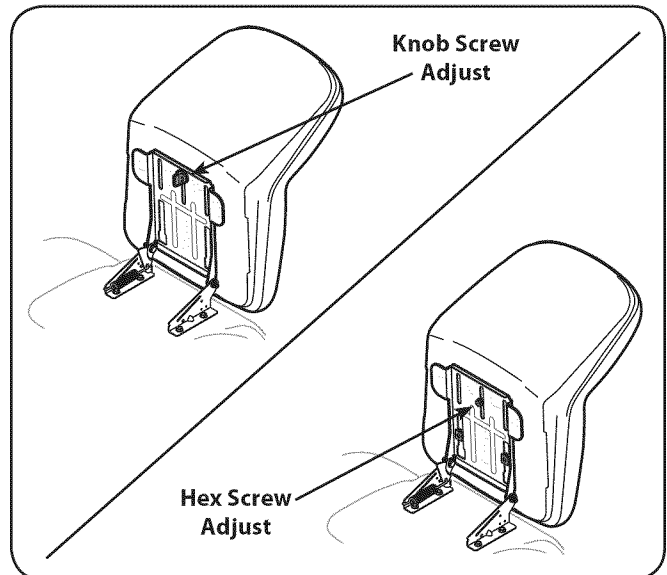

Figure 3-4
5. To adjust the position of the seat, loosen the hex screw (or knob screw if applicable) on the bottom of the seat. Slide the seat forward or backward as desired. Retighten the hex screw (or knob screw if applicable). See Fig. 3-4.